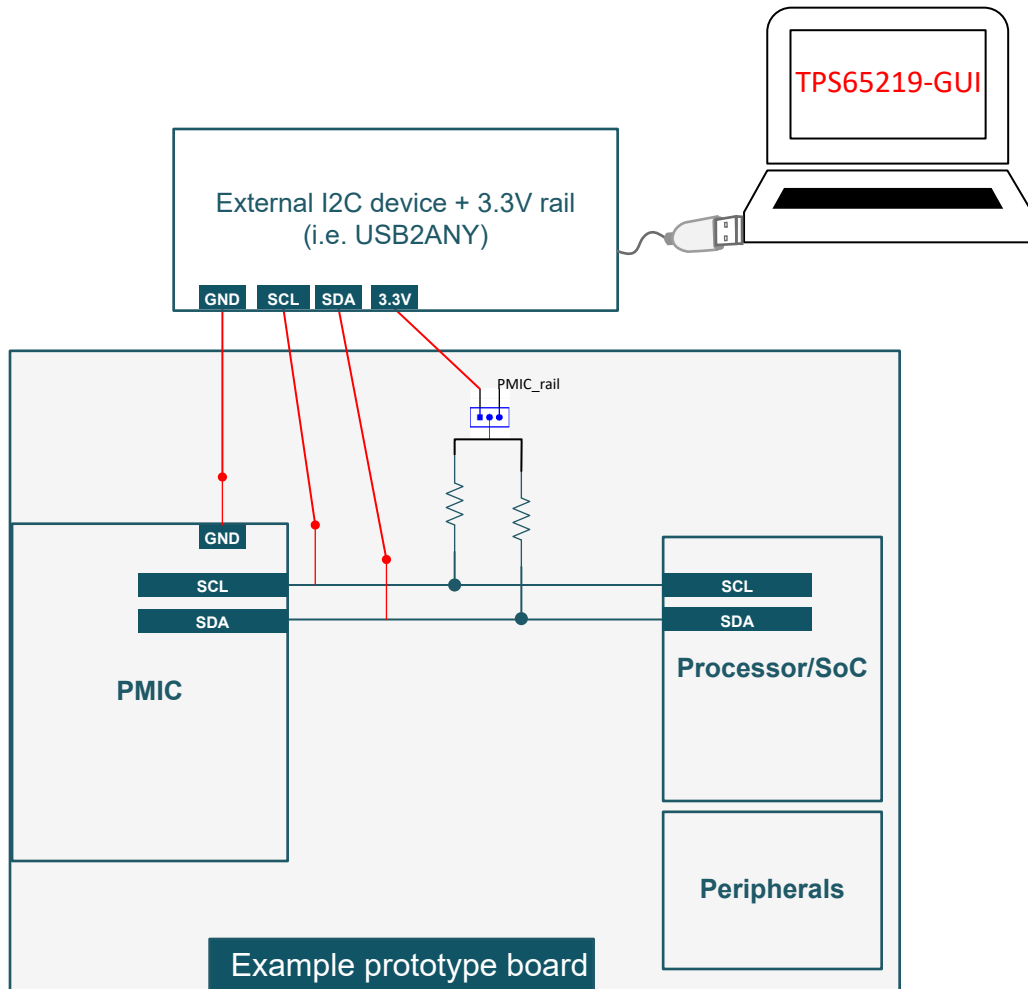

Figure 3-2. Prototype Example
- **Prototype board:** The user-programmable TPS6521905 NVM comes with all the power resources inactive by default and the EN/PB/VSENSE pin configured as push-button with without FSD (PU_ON_FSD = 0x0). If this pin is pulled up to VSYS, PMIC stays OFF (Initialize state) when a valid supply is connected to VSYS. This configuration allows the reprogramming of the NVM before the power-up sequence is executed. Figure 3-2 shows what customers need to include in the prototype board to re-program the PMIC NVM. The components required include three test points on GND, SCL, SDA, and a 1x3 single row header connector that selects the pull-up supply between the external 3.3V and the PMIC rail that supplies the I2C pins in the normal application. The USB2ANY (available at ti.com) can be used to communicate with the PMIC and re-program the NVM settings.